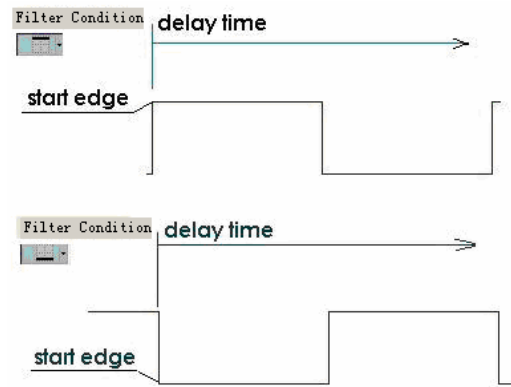

Fig 4-142 – Start Edge
**Tip:** Definitions of the **Start Edge** and the **End Edge** and the **Period + Delay** are listed as Figs 4-142, 4-143,